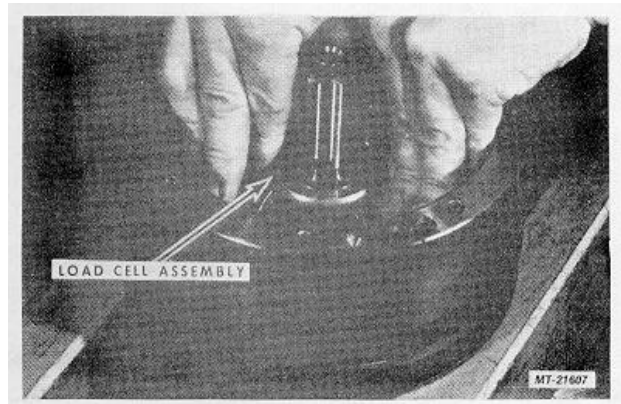

Fig. 77
40. Press the Load Cell Assembly into position, Fig. 77. Resistance will be encountered as the Body moves over "O" Ring Seals, (especially the lower "O" Ring Seal).